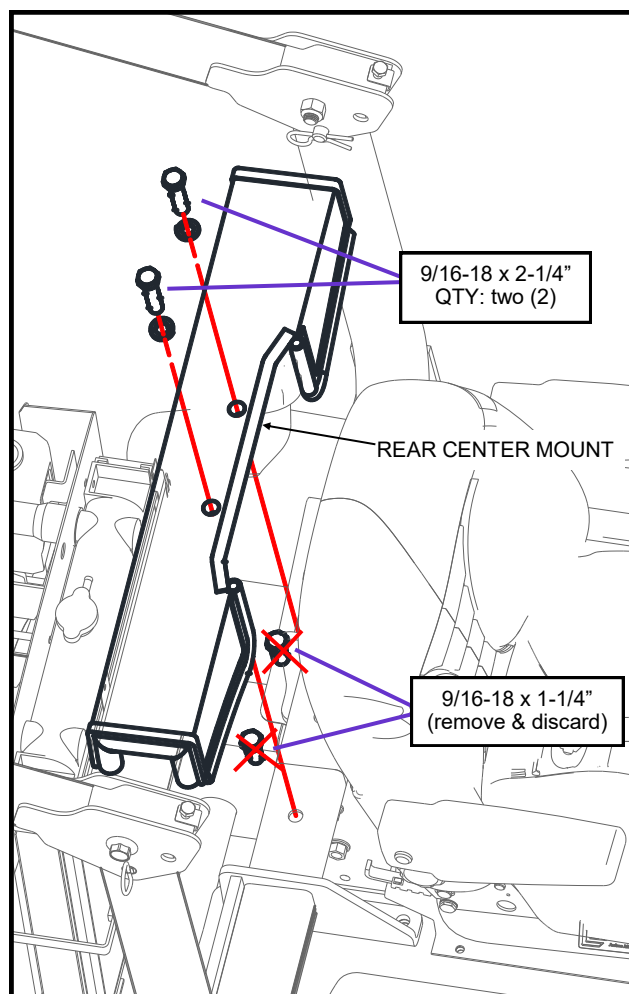

Fig. 1.2 : Rear Center Mount
- 1.2 Per Figure 1.2, remove and discard the two bolts from the lower center of the ROPS (Roll-Over Protective Structure). Remove and retain the washers from the bolts. Install the Rear Center Mount and secure it with the 2 (two) 9/16-18 bolts from the hardware kit and the washers from the tractor.